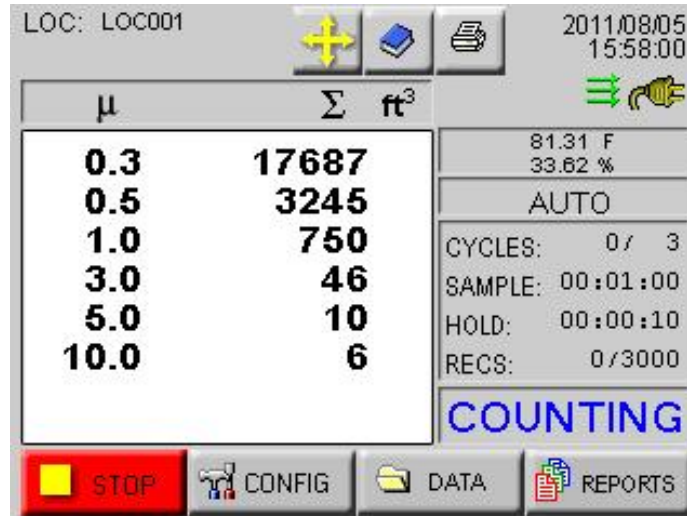

Figure 6-5 Counting Mode
- START/STOP:** Press START button on the screen to start counting. When running, the instrument will display “COUNTING” in the lower right corner of the screen as shown in Figure 6-5. Press the STOP button to stop counting; the word “STOPPED” will display.